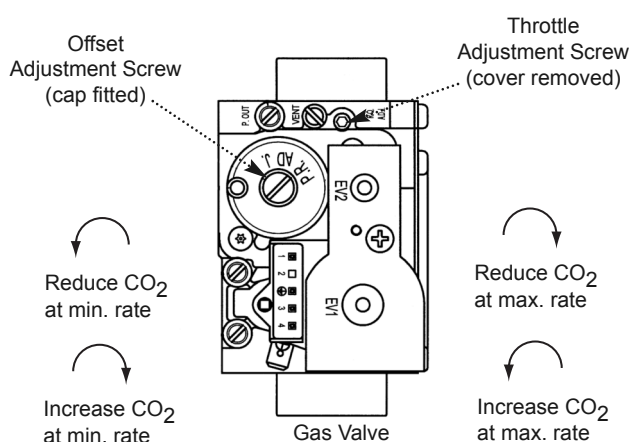

Fig. 61
4. Check the CO₂ is 9.3% $\pm$ 0.1%. If the CO₂ is incorrect alter the Throttle Adjustment Screw (Fig. 61). Turn the screw anticlockwise to increase the CO₂ or clockwise to decrease (2.5mm hexagon key).
6. Check the CO₂ is 8.9% $\pm$ 0.1%. If the CO₂ is incorrect alter the Offset Adjustment Screw (Fig. 61). Turn the screw clockwise to increase the CO₂ or anticlockwise to decrease (4mm hexagon key).